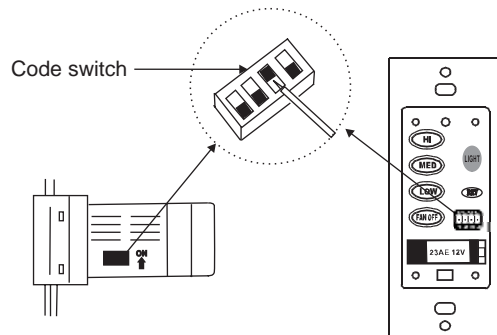

Figure 11
**NOTE:** This remote control unit is equipped with 16 code combinations to prevent possible interference from or to other remote units. The frequency switches on your receiver and transmitter have been preset at the factory. Please recheck to make sure the switches on transmitter and receiver are set to the same position, any combination of settings will operate the fan as long as the transmitter and receiver are set to the same position. (Fig. 11)